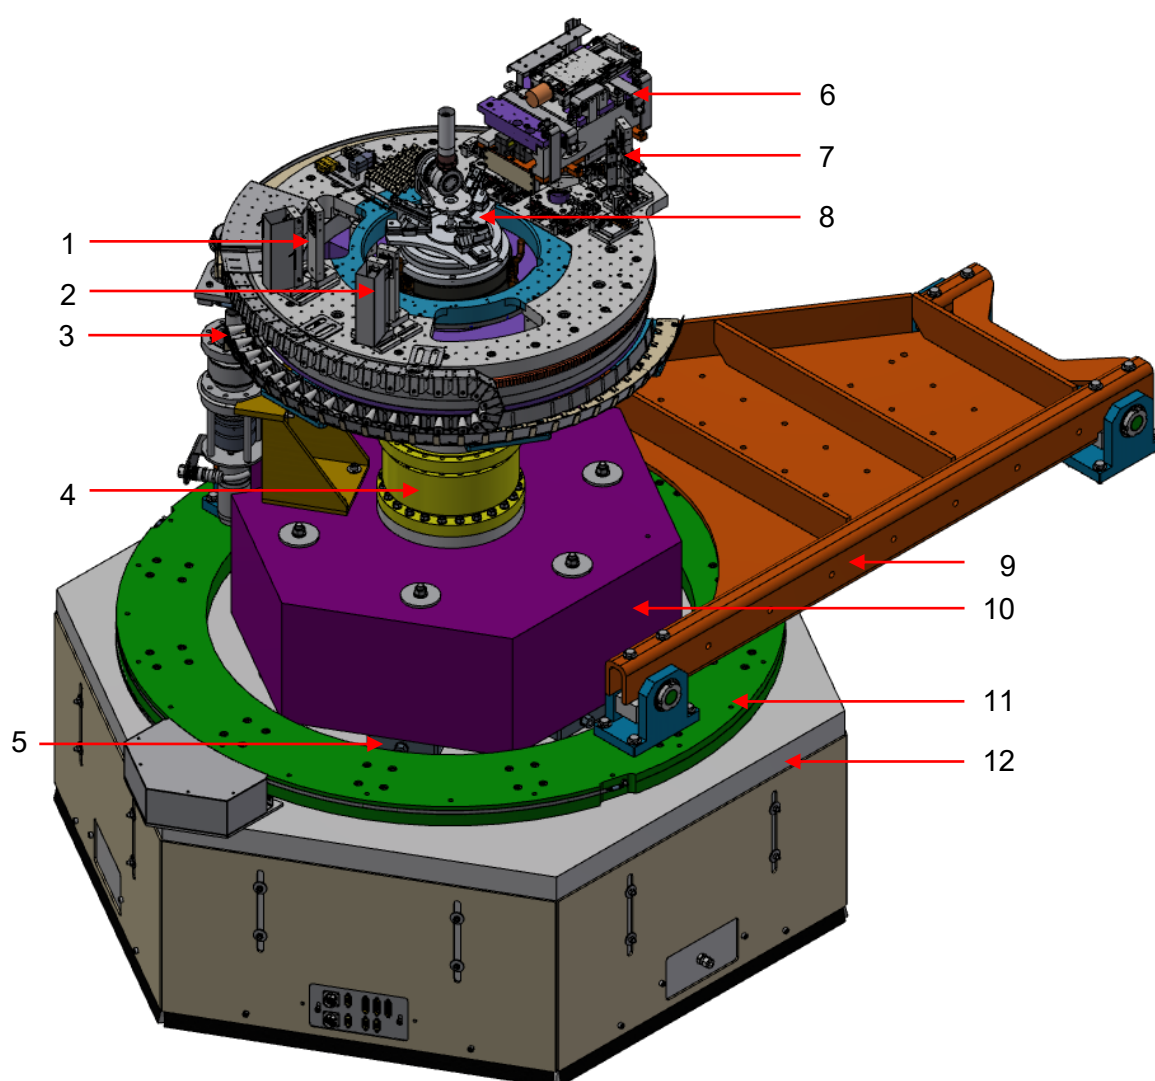

Figure 46: Sample chamber internal mechanics and support structure overview
- 3 Wedge leveler (3x) for alignment of the lower granite #12 in Figure 46